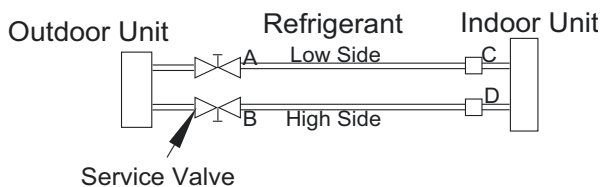

Fig. 15 —Service Valve
1. Completely tighten all flare nuts and connect the manifold gage charge hose to a charge port of the low side service valve (see Fig. 15).